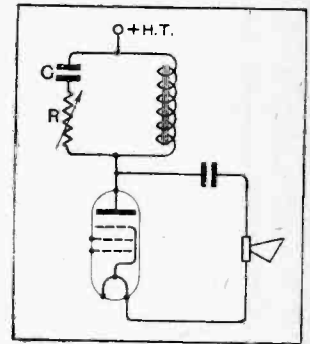

Fig. 3.—The simplest form of tone correction in the upper register consists of a condenser and resistance in parallel with the output choke.
The same effect can be produced equally well on the L.F. side by the well-known expedient of connecting a resistance and condenser across the anode load of one of the valves. This method works well when applied to the correction of high-note response in pentode valves, as in Fig. 3. The type of correction curve given by this circuit is shown at (2) in Fig. 4. It will be seen that the correction is progressive, and starts well down in the middle register, which is desirable when applied to the rising characteristics of a pentode valve used in conjunction with a moving-iron loud speaker. When applied to the elimination of heterodyne whistle, however, it will be found that the middle register will suffer considerably before interference in the region of 3,000 to 6,000 cycles is reduced to a sufficiently low level.
This method works well when applied to the correction of high-note response in pentode valves, as in Fig. 3. The type of correction curve given by this circuit is shown at (2) in Fig. 4. It will be seen that the correction is progressive, and starts well down in the middle register, which is desirable when applied to the rising characteristics of a pentode valve used in conjunction with a moving-iron loud speaker. When applied to the elimination of heterodyne whistle, however, it will be found that the middle register will suffer considerably before interference in the region of 3,000 to 6,000 cycles is reduced to a sufficiently low level.
Fig. 4.—Diagrammatic presentation of the cut-off problem. (1) The majority of loud speakers, including moving coils, provide a natural cut-off at 6,000 cycles. (2) The simple correction circuit of Fig. 3 cuts deeply into the middle register before the high note response is sufficiently reduced. (3) 2,500 cycles represent the lowest permissible cut-off frequency. (4) The best compromise with quality is provided by a cut-off at 3,500 cycles.